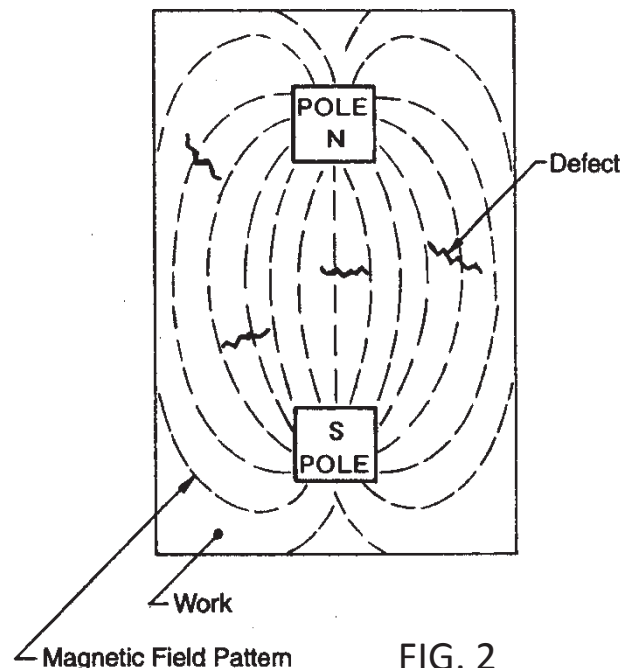

FIG. 2
**OPERATION:** Connect the instrument plug into a Grounded power outlet of proper voltage. Place the Contour Probe legs upon the work surface with the suspected defect at right angles to the legs (Good contact will produce the best results). Push the test switch to energize the instrument. Lightly dust or float dry magnetic inspection powder over the area being inspected. Defect indications will be revealed in a direction shown on figure 2. Turn the Probe 90 degrees from the first test and repeat the process. This method may also be utilized when applying a wet medium. Check all procedures and standards for further details involving inspection specifics.